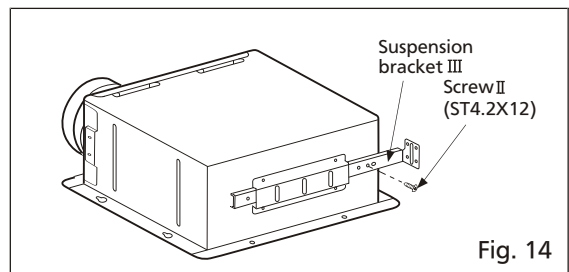

Fig. 14
2. Connect the suspension bracket III to fan body. (Fig.14)